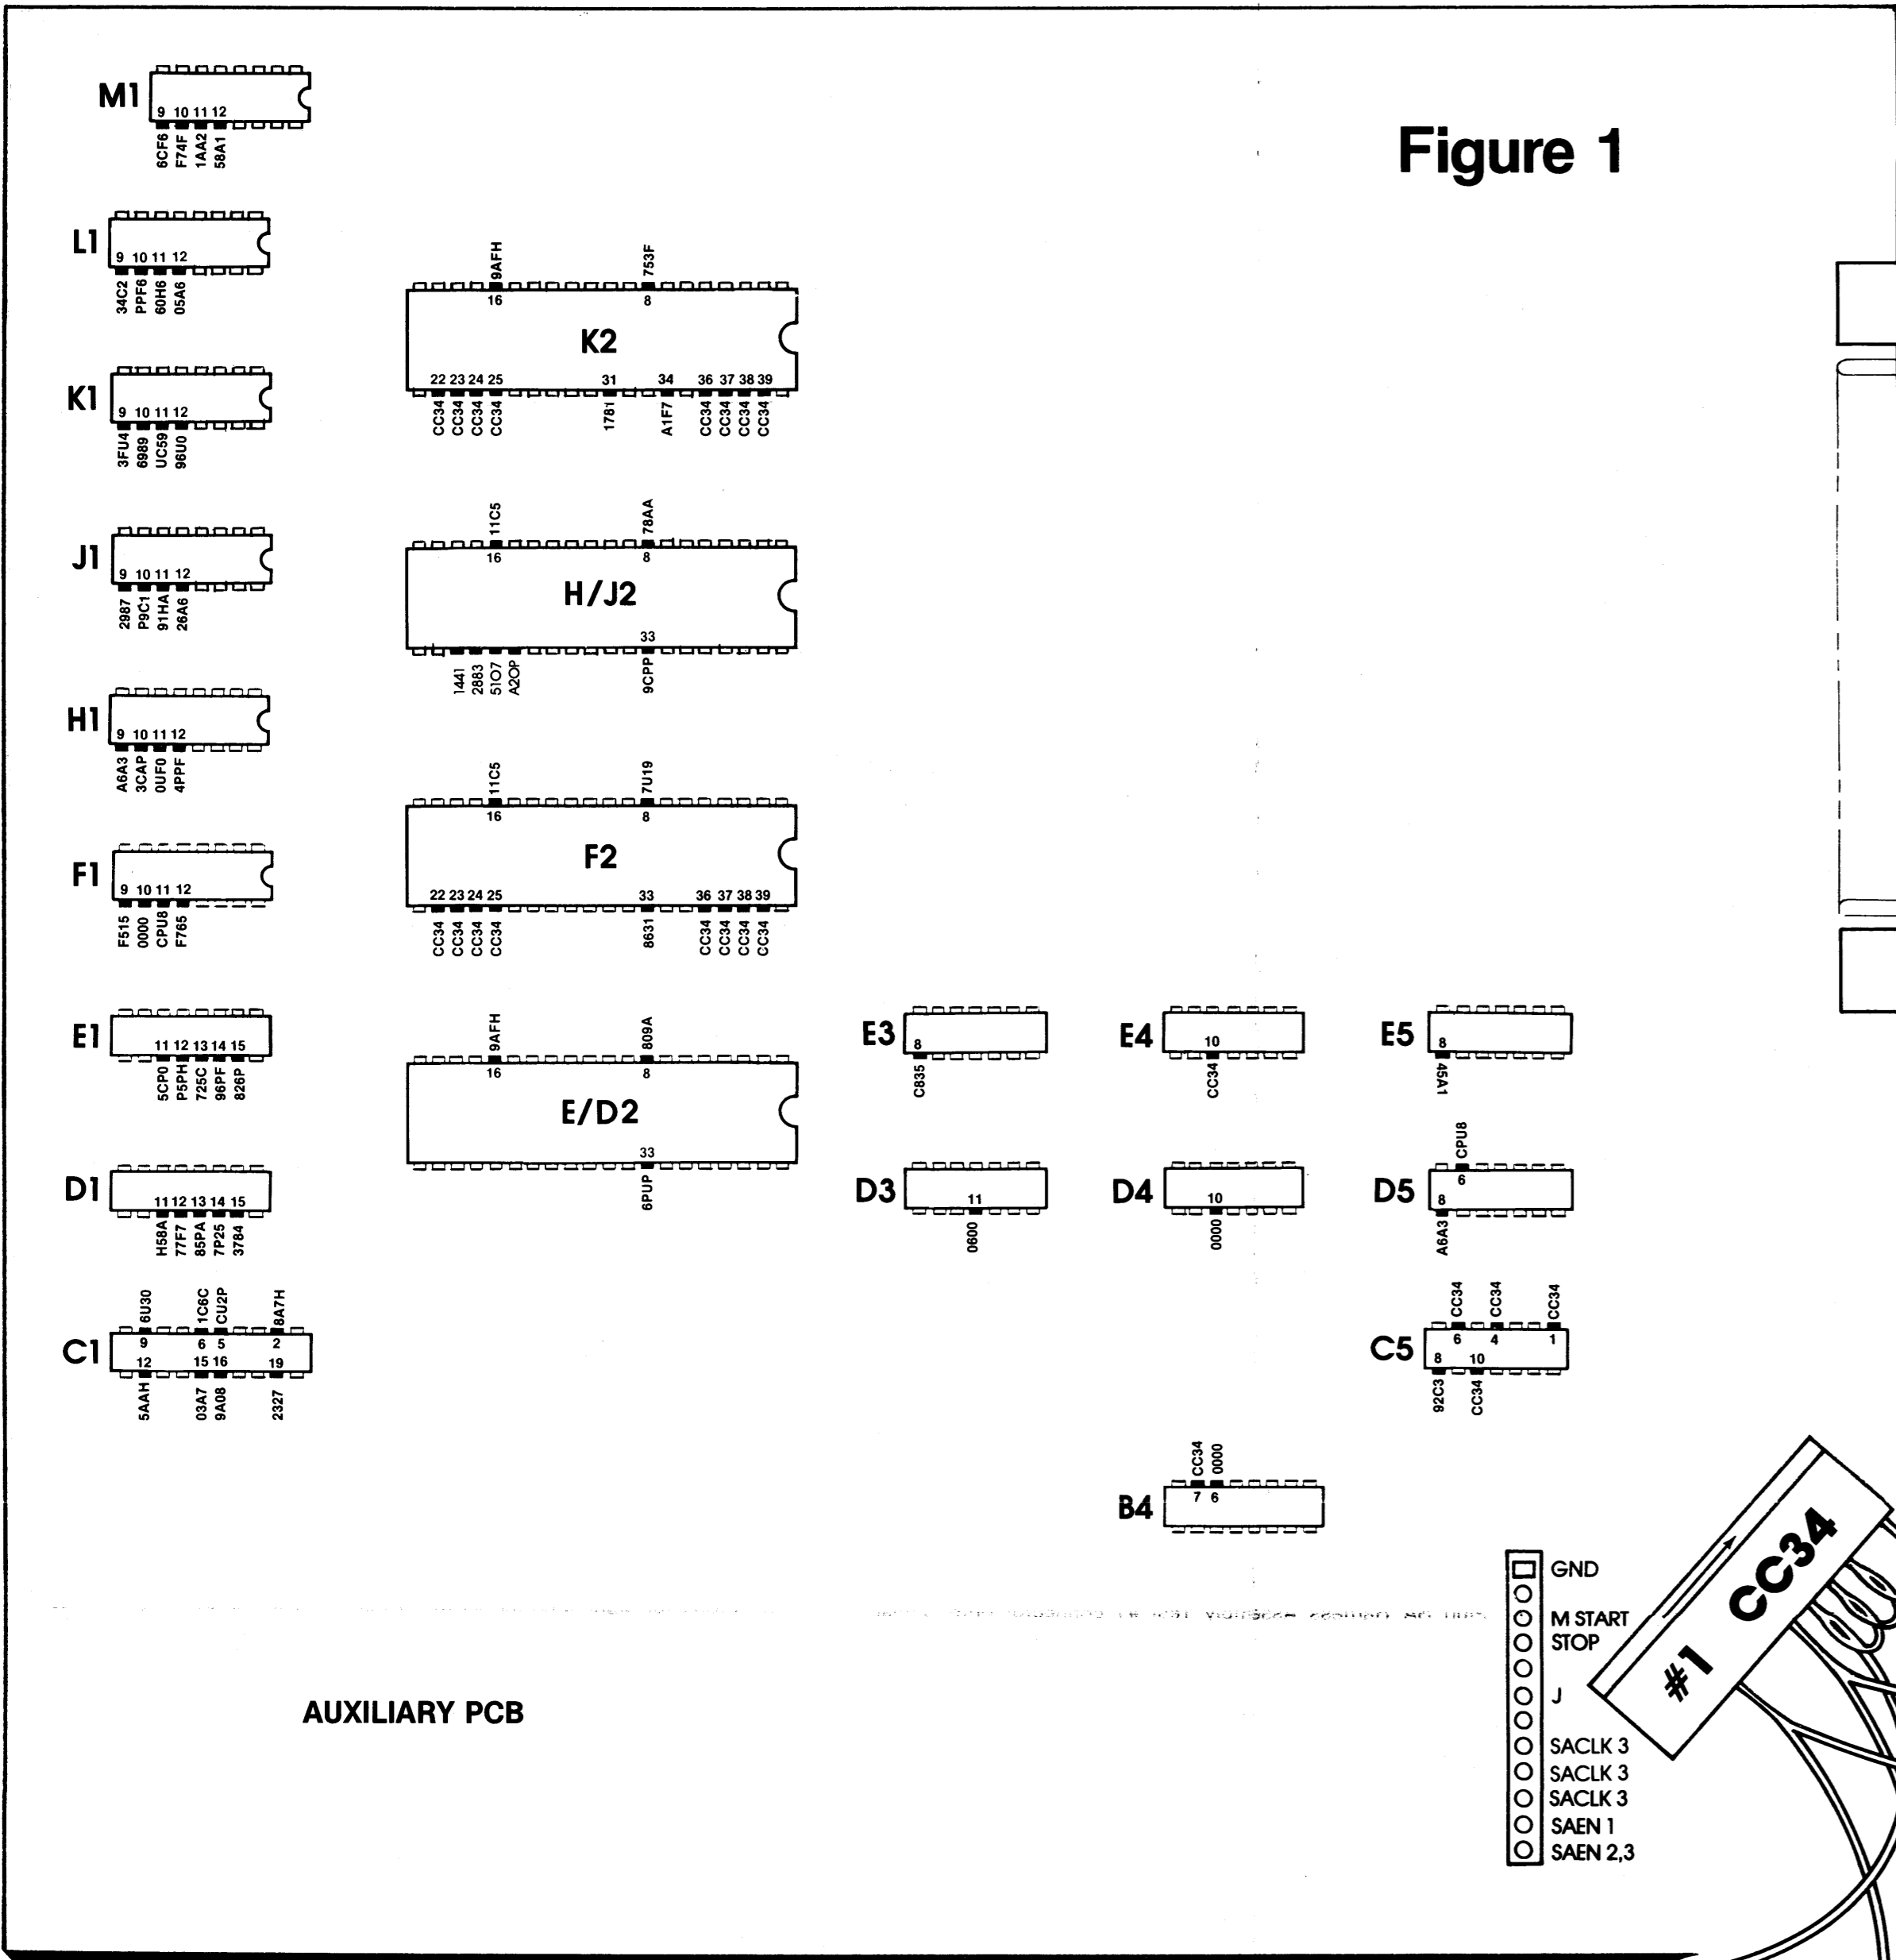

Figure 1
6. Probe for signatures as shown in Figure 1 to the left. If all signatures are correct, continue with D. *Signature Analysis Test #2A Procedure*. If any signatures are incorrect, probe for signature of CC34 on +5V test point. If not CC34, remove jumper from pin 1 of IC B6. Return to B. *Signature Analysis Setup Procedure* and once again do step 3. If +5V is CC34, refer to G. *Isolating a Failing Circuit*.